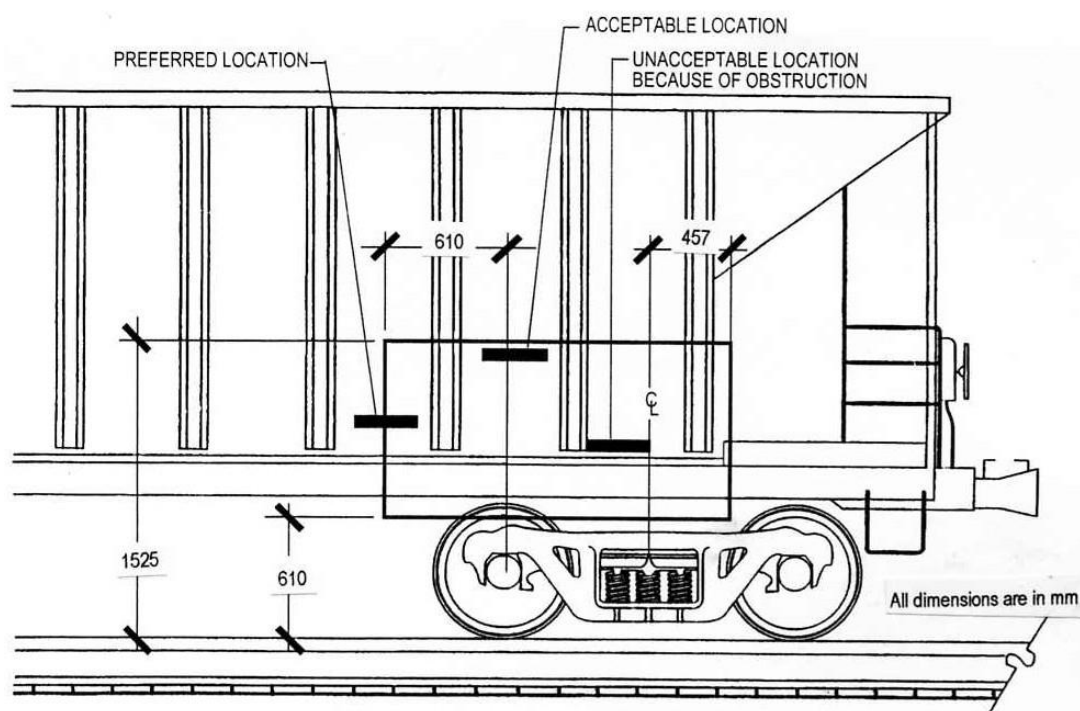

Figure 1 - Diagram H1 - Location of AEI tags on vehicles.
- Figure 1 General location of tags (AAR S-918 Figure 9.1)